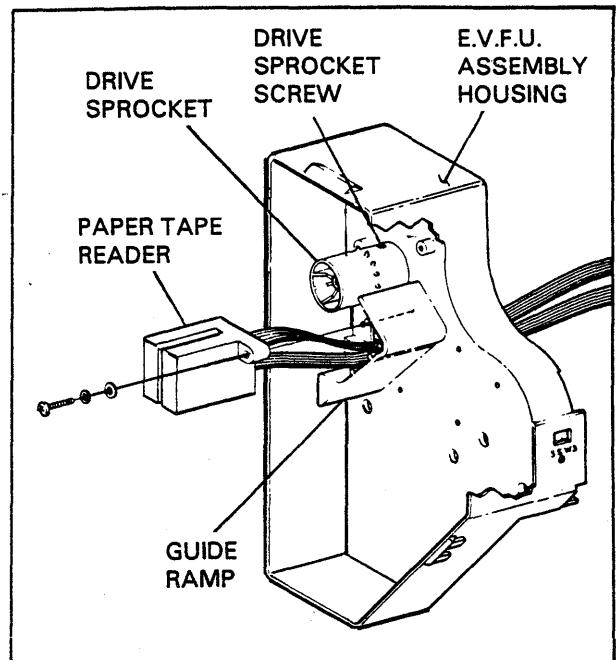

FIGURE 5-34. DRIVE SPROCKET ADJUSTMENT
#### Procedure (Figure 5-34)
8. Move the sprocket in or out as required so that the format tape will just ride against the guide ramp (located beneath the paper tape reader). Tighten the sprocket retaining screw. See Figure 5-34.